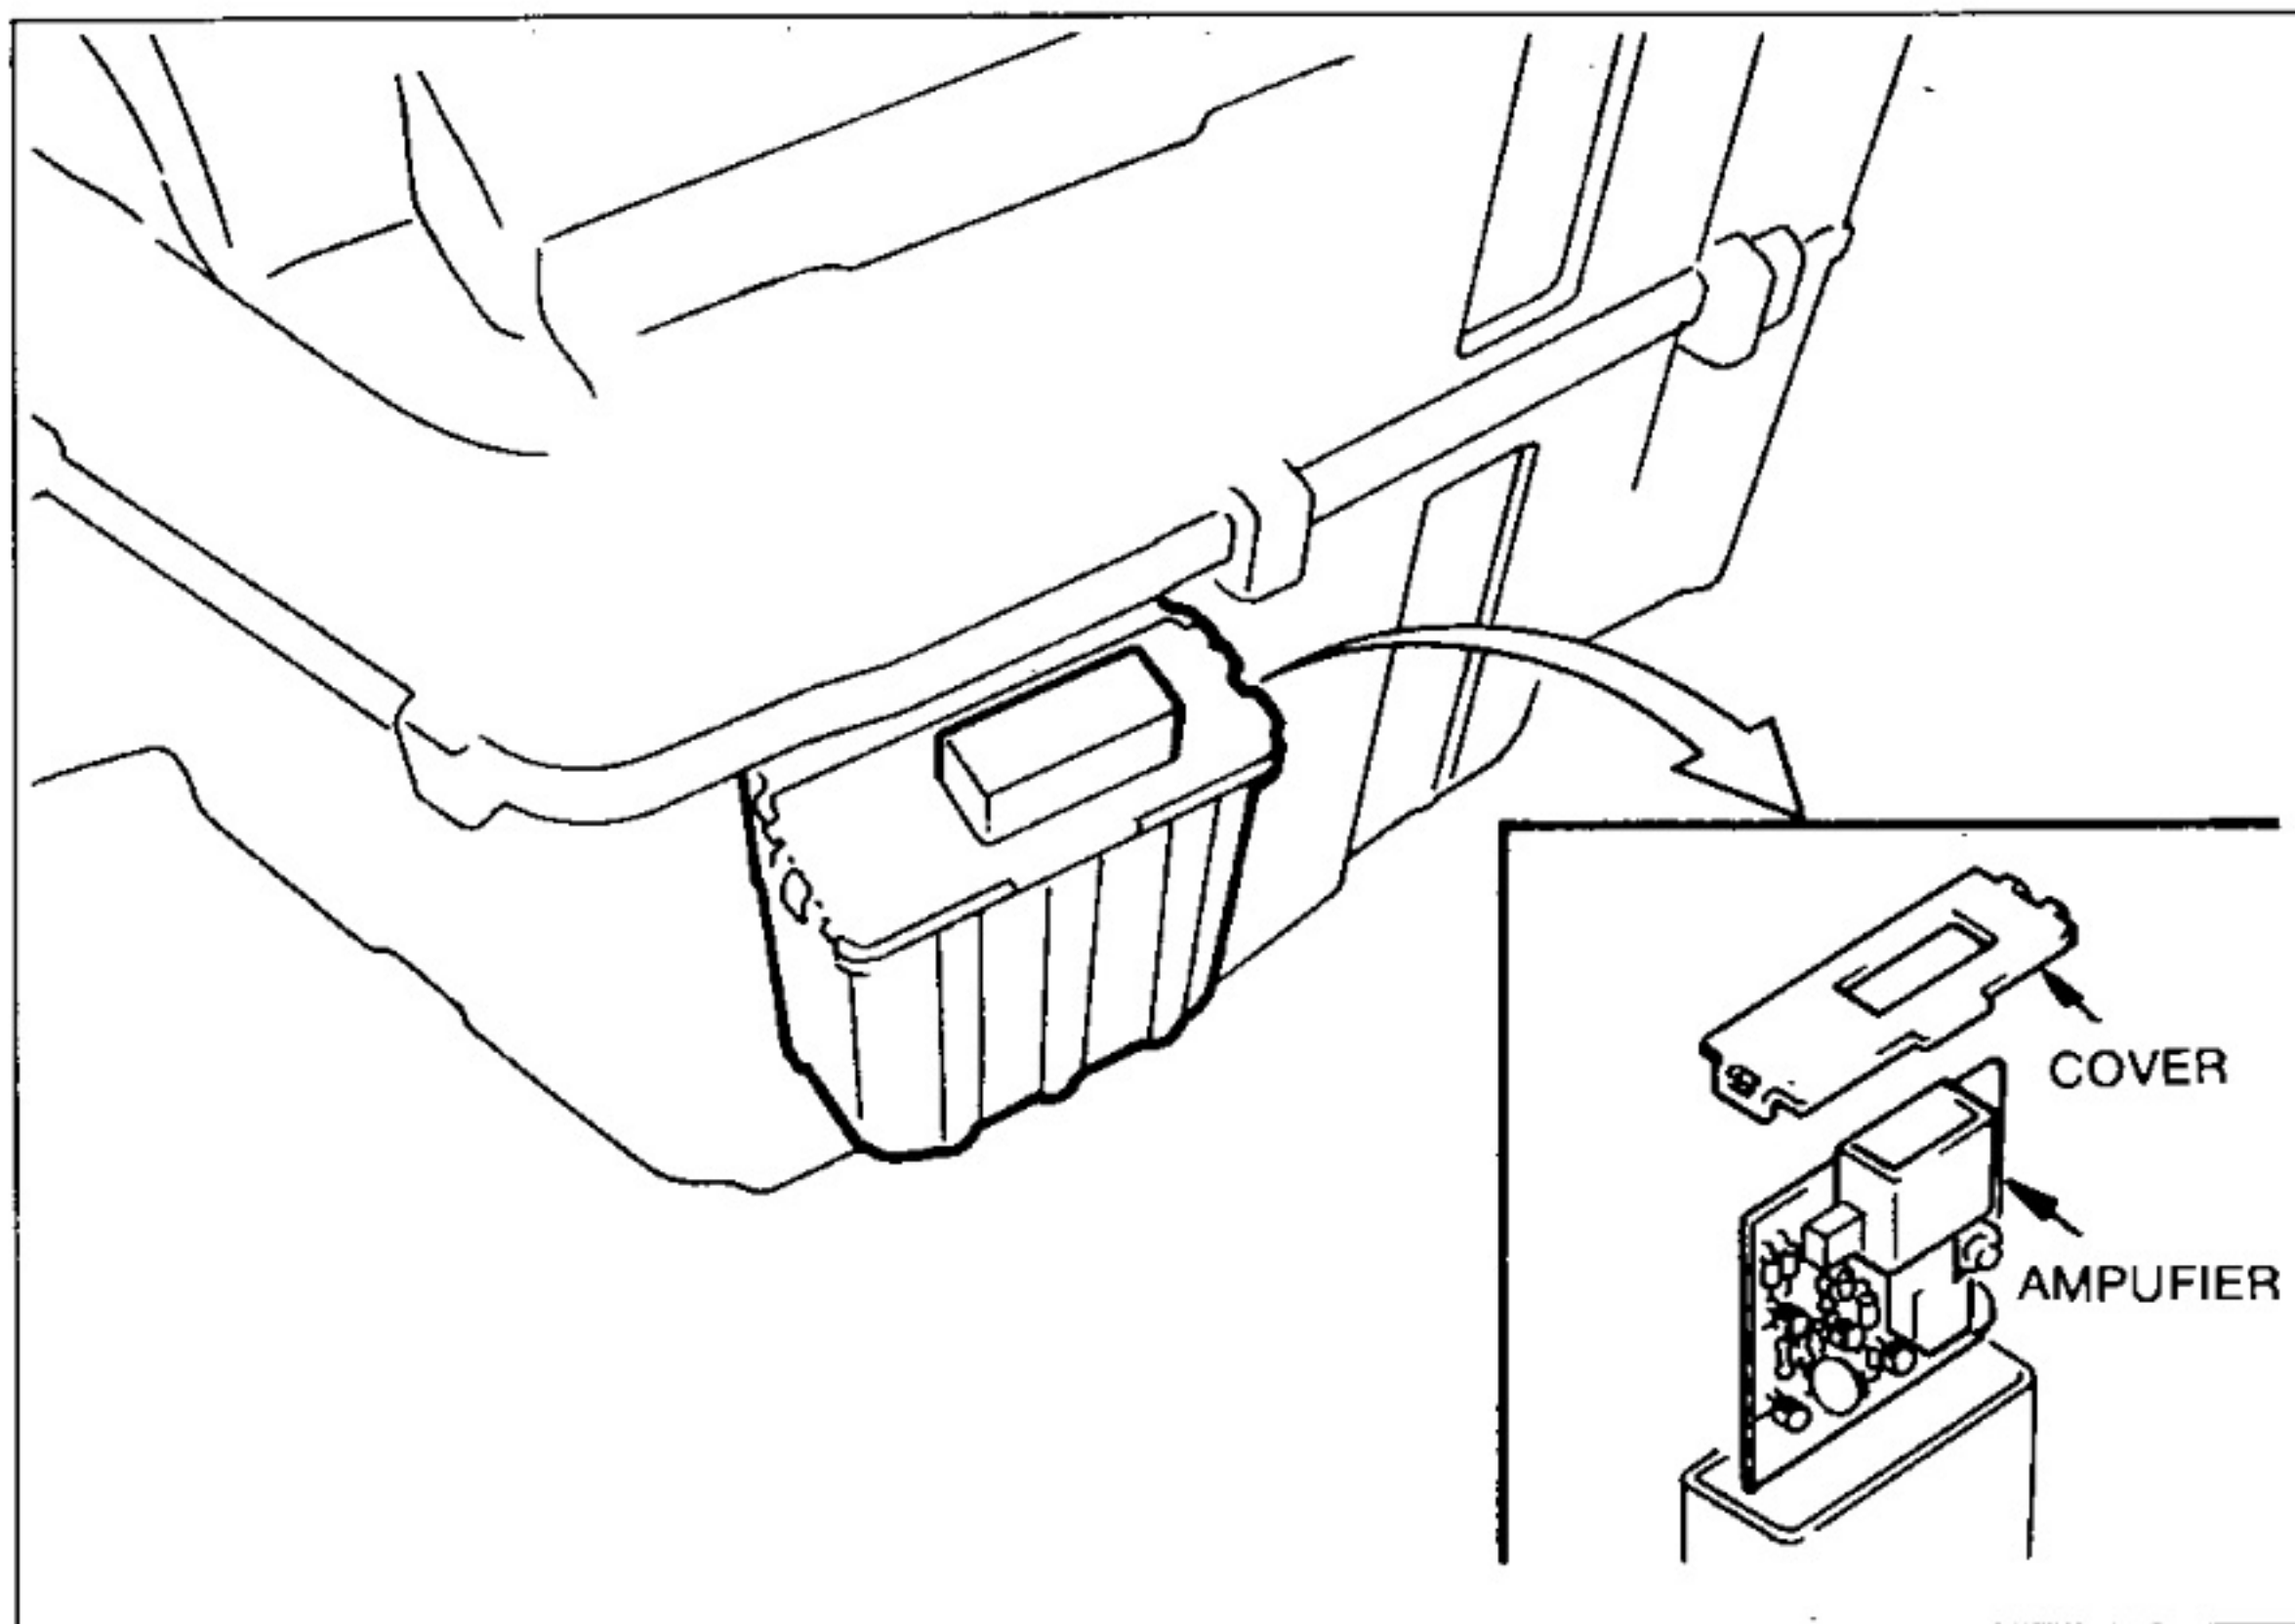

Fig.6
(3) AMPLIFIER
- (b) Install the cover as shown in Fig. 6.
(4) A/C HARNESS